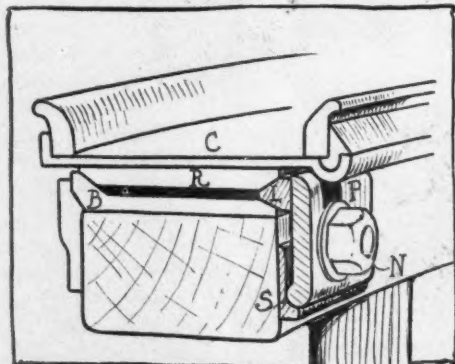

FIG. 2—GOODRICH DEMOUNTABLE-DETACHABLE
**B. F. Goodrich Co.**—An interesting addition to the Goodrich line for 1910 is the detachable demountable rim brought out for the first time by this company. This rim is suitable for the use of the company's quick-detachable or straight clincher tires, the illustration, Fig. 2, showing it arranged for the quick-detachable type. This rim has a band, B, shrunk